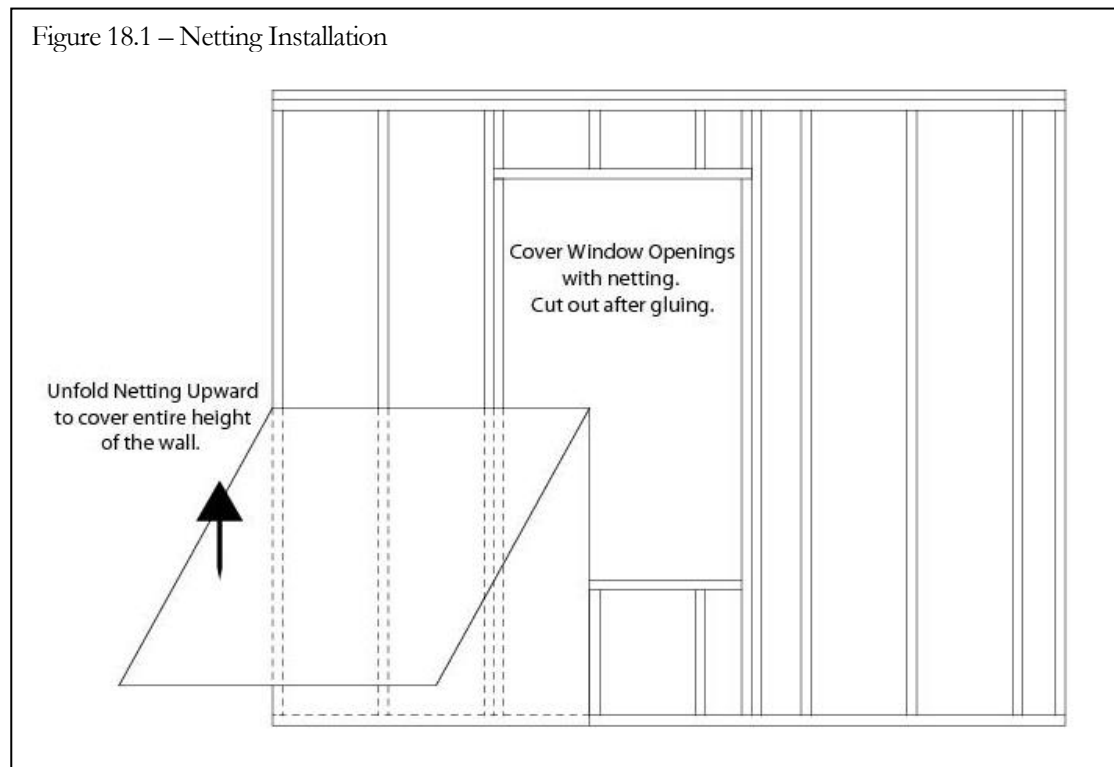

Figure 18.2 – Adhering the Netting
2. Attach the netting with just enough staples to hold it taut; about every 2' on the studs and every 1' on the plates. (See Figure 18.2).